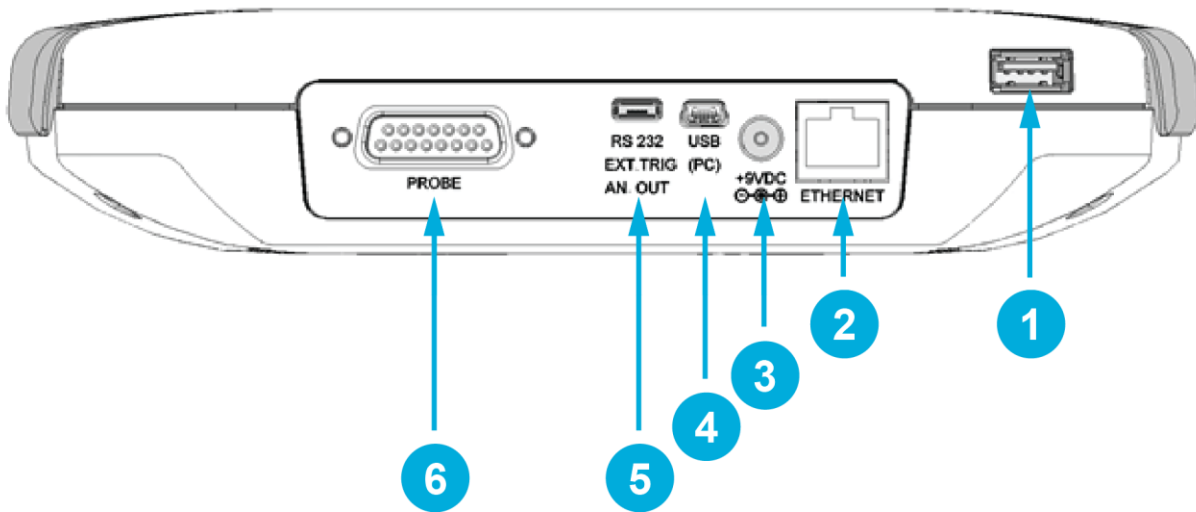
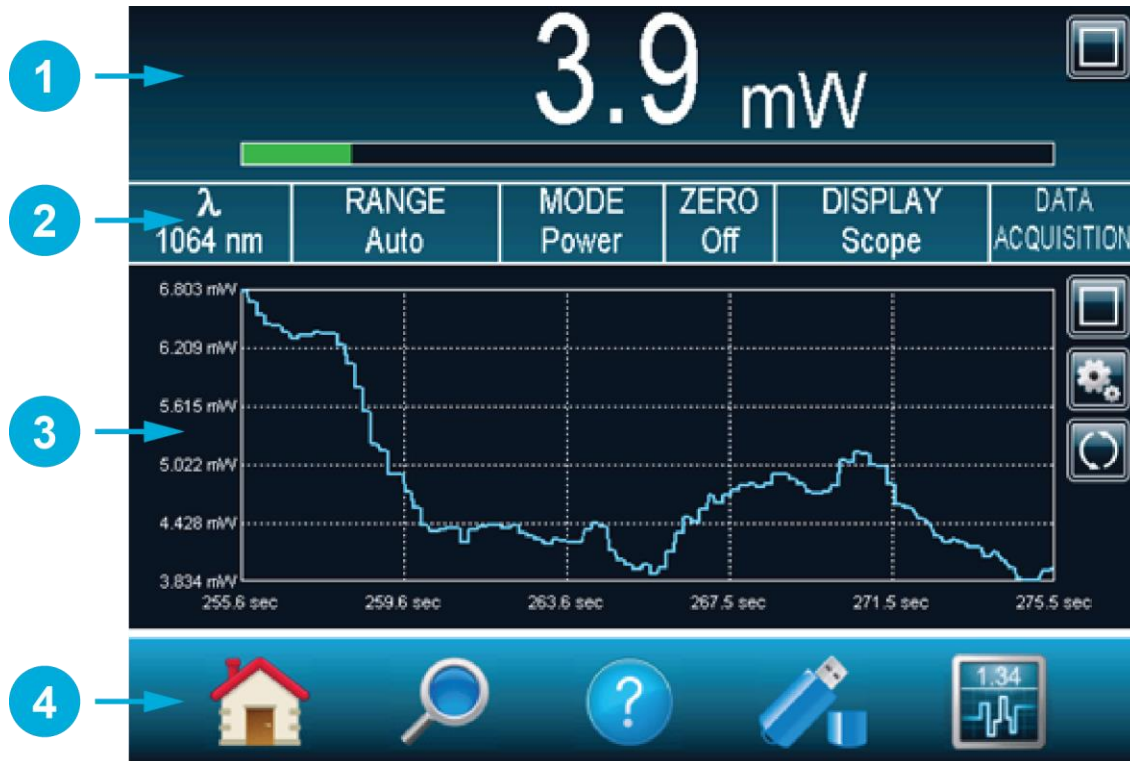

Figure 2. MAESTRO top panel
Figure 4. MAESTRO startup window
The MAESTRO is delivered ready to use. Just insert a detector head in the probe input jack (item 6 in Figure 2) and press the I/O key. The following window will appear on the monitor (Figure 4). It is separated into four different areas.
6. Power heads will default the MAESTRO to power measurement; energy heads will default the MAESTRO to energy measurement. The display will default to a dual display in real time and scope (Figure 4) in **auto range** mode.